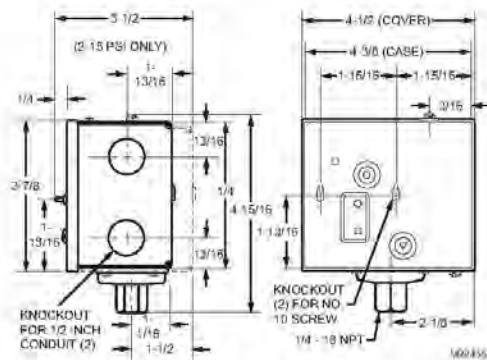

Fig. 1. L4079A,B,W PressureTrol® Limit Control dimensions in inches.
**Dimensions:** See Fig. 1.
See Fig. 1 for mounting dimensions.